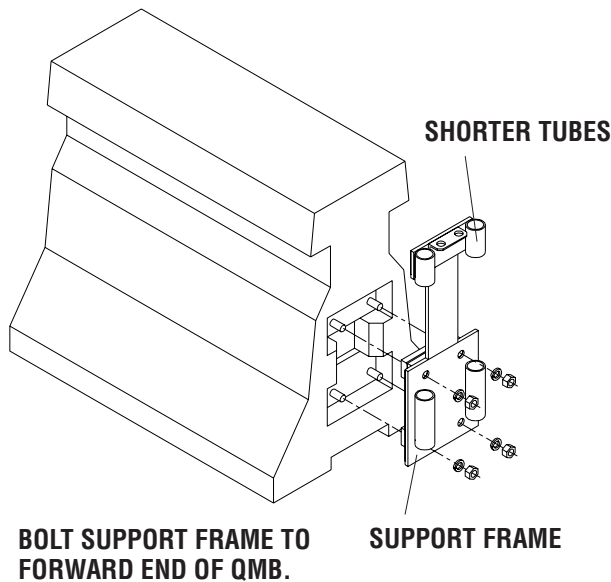

Figure 10
Step 2: Install Euro-NEAT® QMB Support Frame (see Figure 10)